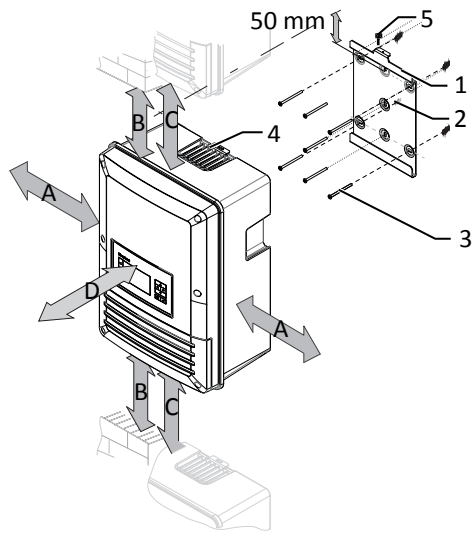

Fig. 7: Minimum clearances for wall mounting
- 3 Insert the screw provided into the lug of the mount and secure the device to prevent it from being lifted off [X X Z2 (Pozidrive) /  2 Nm] [See figure 7] [► Page 16].